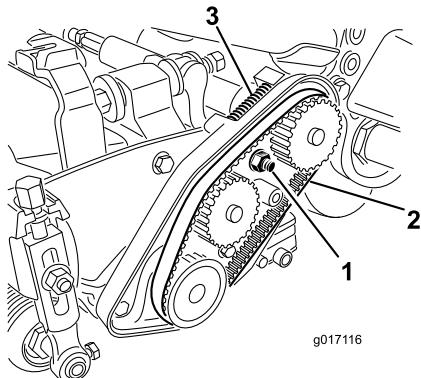

Figure 43
- A. Loosen the bearing housing mounting nut (Figure 43).
- C. Clean any debris from inside the belt compartment and from around the compression spring (Figure 43).